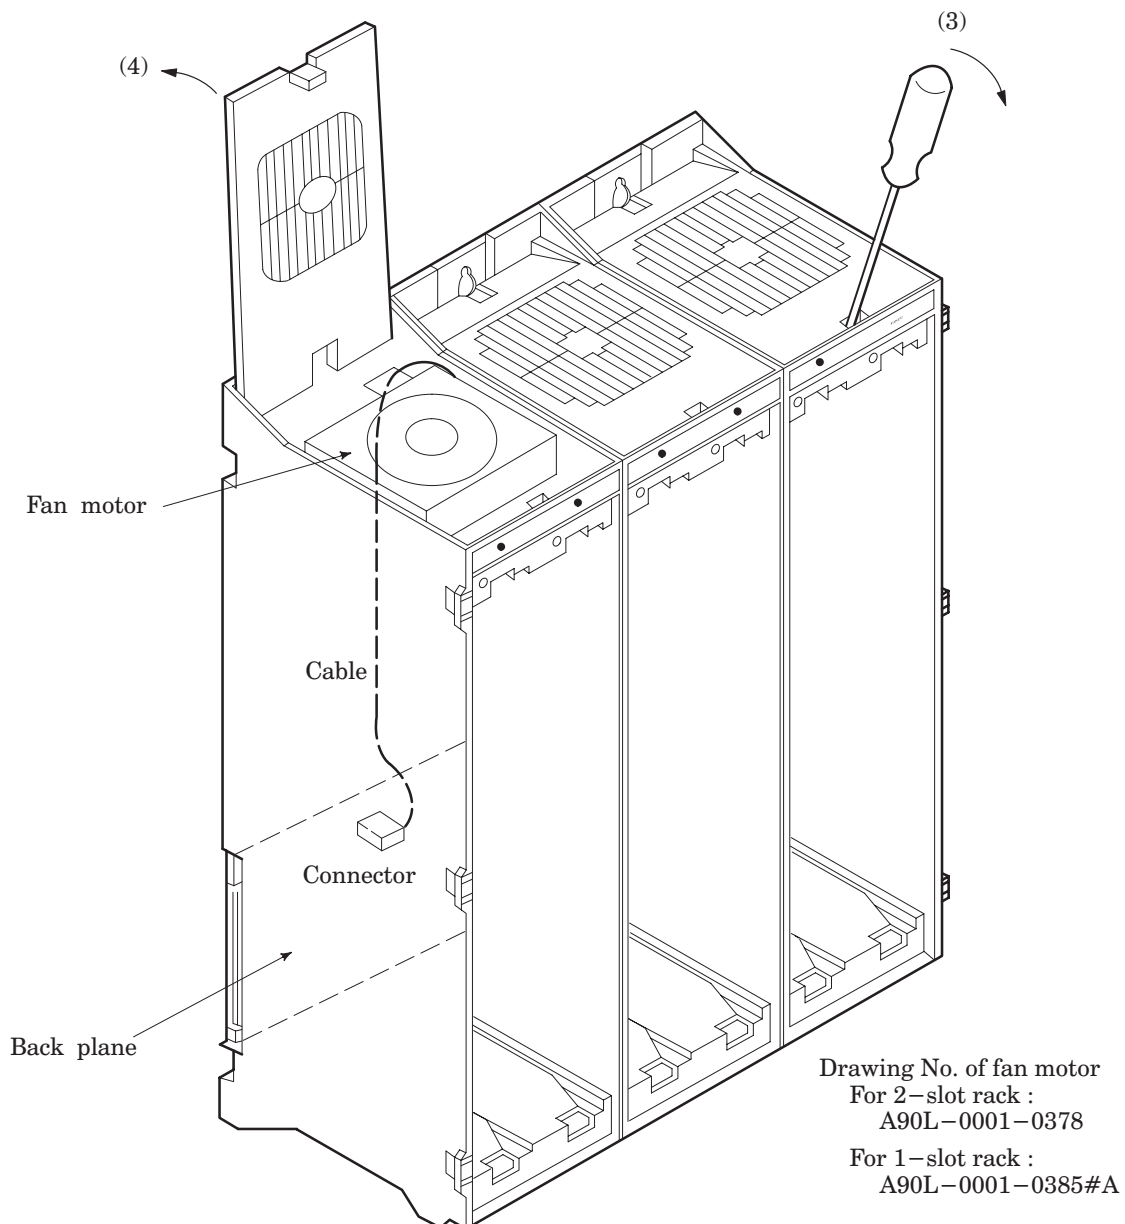

Fig. 8.6 Fan Motor Replacement
- (1) Remove the control section printed circuit board underneath the fan to be replaced by referring to the removal procedure described in section 8.3.
- (2) There is a backplane inside the slot. The fan motor cable coming from above is connected to the backplane. Grasp the left and right side of the cable connector attached to the backplane and remove it.
- (3) Opening the upper lid of the control section rack Insert a phillips head screwdriver into the hole at the center front of the lid. The latch holding the cover in place can be released by prying the screwdriver in the direction shown in item (3) of Fig. 8.6.
- (4) Open the lid sufficiently and remove the fan motor. Since the fan itself is not screwed into the rack, it can be easily removed.
- (5) Install the new fan motor. Guide the fan motor cable through the hole and into the rack.
- (6) Close the lid until the latch locks.
- (7) Attach the fan motor cable to the connector on the back plane. At this time, affix the middle portion of the cable to the hooks at the back of the rack.
- (8) Reinsert the removed control section printed circuit board by following the directions described in section 8.3.